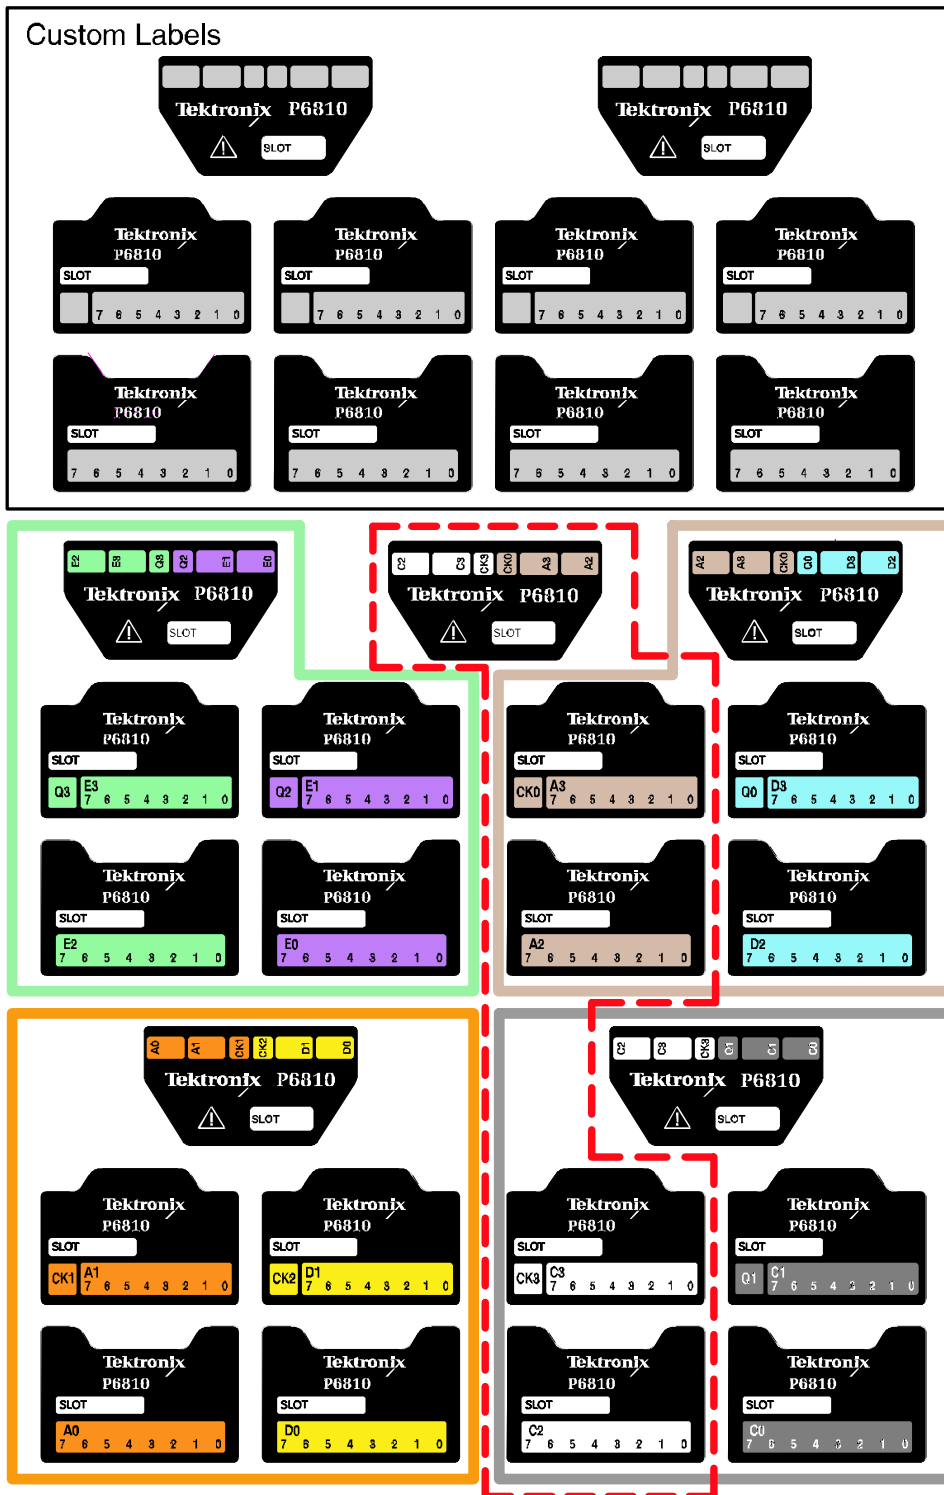
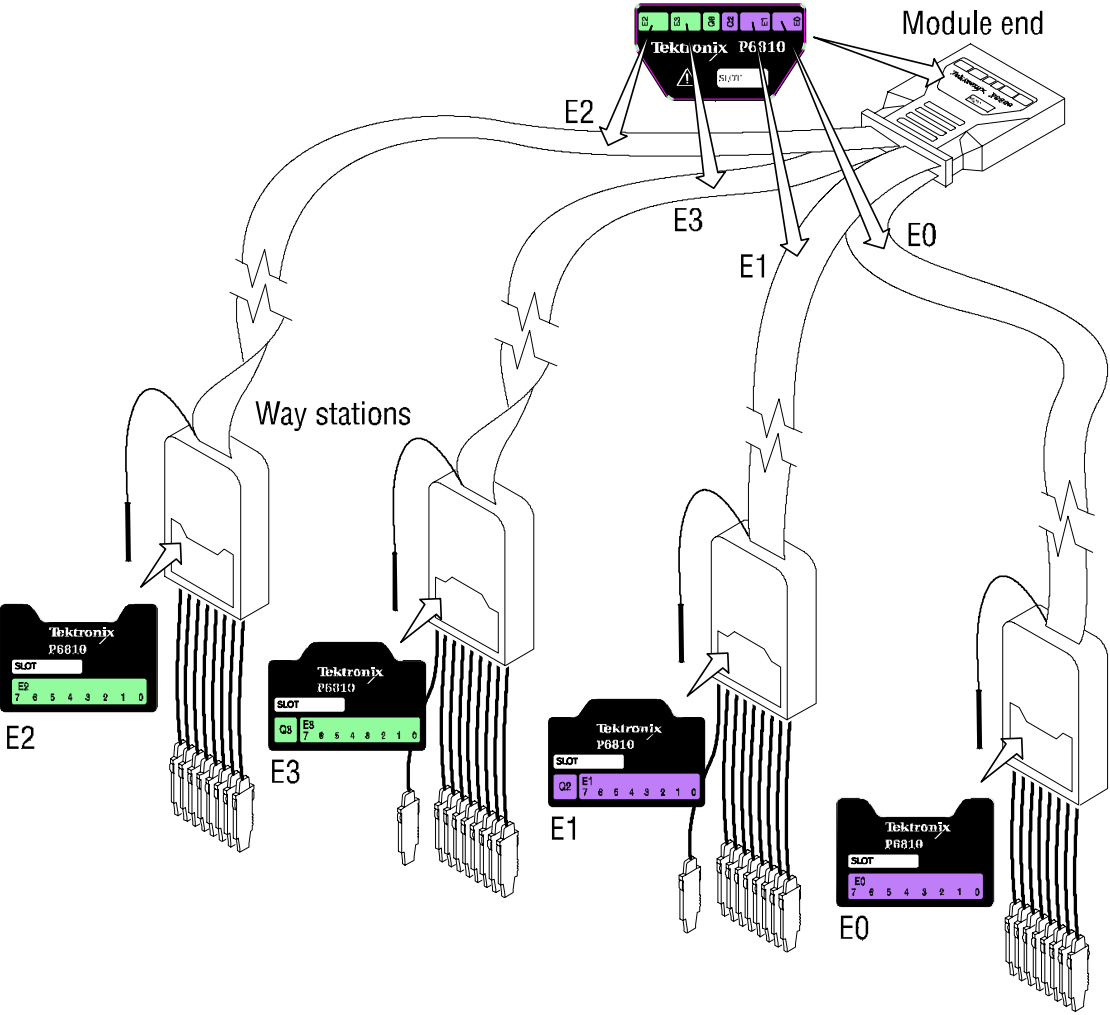

Figure 1: Example of sheet of P6810 probe labels.
Figure 2: Attaching the P6810 General Purpose probe labels
You will be attaching labels to the module end and the four way stations. Refer to Figure 1 and Figure 2 while attaching the probe labels.
NOTE. *If you are labeling probes for either 34- or 68-channel modules, you will need to use a combination of two sets of probe labels for one of your probes. The labels for this probe are grouped within the dashed red line in Figure 1.*
2. Identify the module end of the probe. See Figure 2.